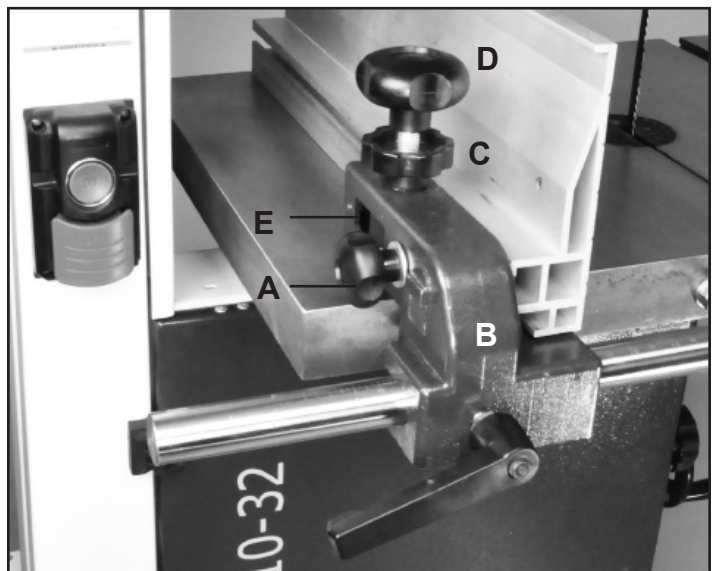

FIGURE 32
1. Loosen the side Handle (#7F, Fig. 32, A) which holds the rip fence against the Fence Carrier (#9F, B).
2. Loosen the Locking Knob (#2F, Fig. 32, C).